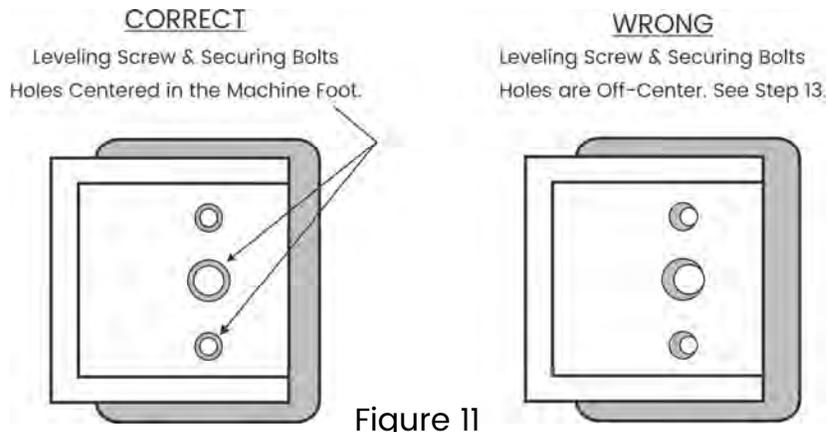

Figure 11
6. Continue lifting the isolator slowly until it comes into contact with the bottom of the press foot. Check each isolator to see if the leveling screw is centered in the press foot-mounting hole. See Figure 11.
7. Install the isolator securing bolts if supplied with the isolator. The holes for these bolts should also be centered with their respective holes in the press feet. See Figure 11.